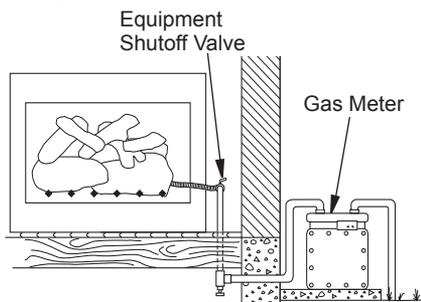

Figure 6 - Checking Gas Joints
3. Check all joints from gas meter to equipment shutoff valve (see Figure 6). Apply noncorrosive leak detection fluid to gas joints. Bubbles forming show a leak.